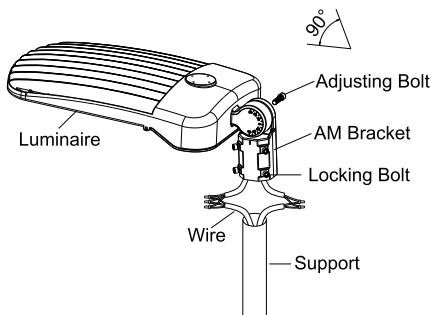

Figure 9
Step 1: Loosen the four bolts on AM bracket, connect the wires correctly, and pull the wires into the poles. (Figure 9)
Notice: Adjustable angle is 0-90° (Figure 9)